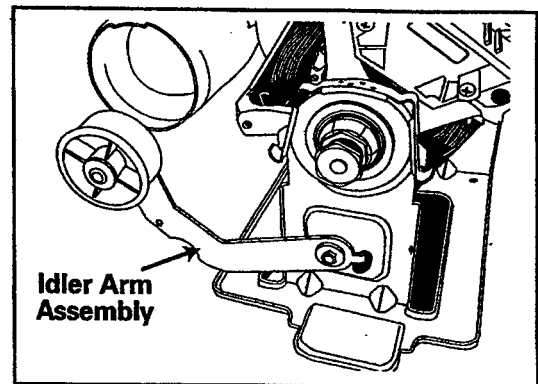

Figure 2-92
5. Unhook idler spring from the base frame and remove the screw securing the assembly to the motor support bracket (*Figure 2-92*).